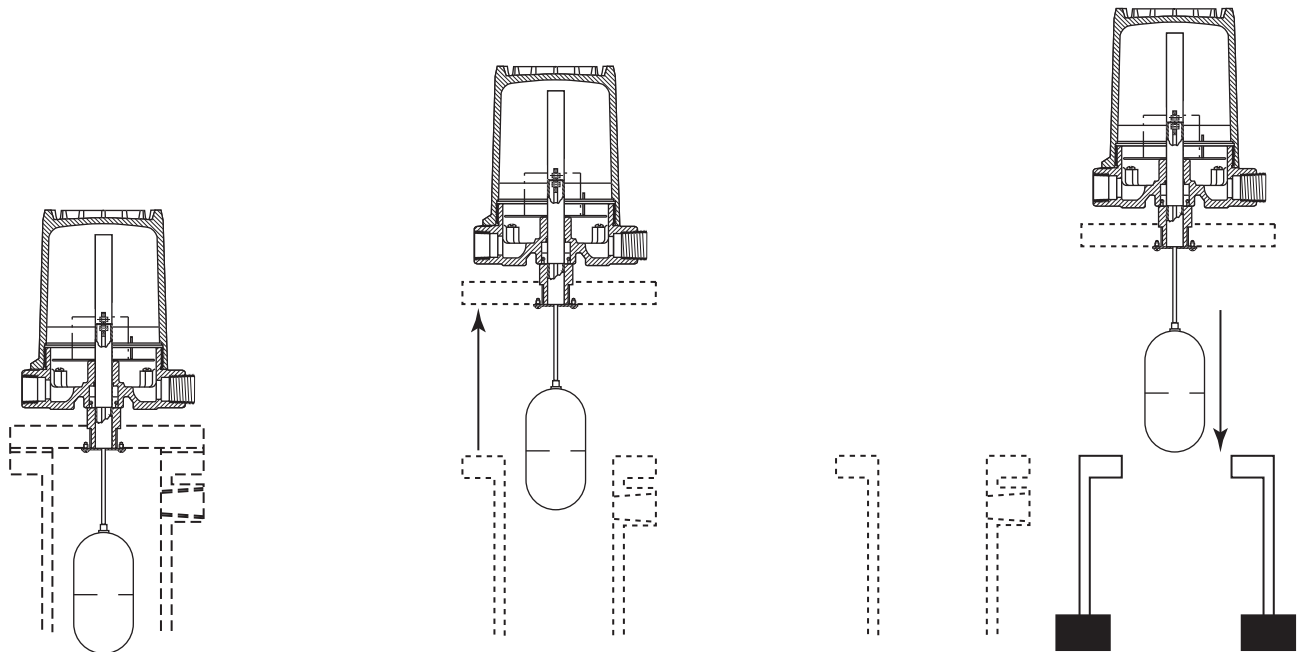

Figure 9
5. Prepare an area where the head assembly can be placed such that it rests on the flange in its normal orientation (two 2×4 boards placed across an open drum work well). Refer to **Figure 9** on page 11.
10. Replace the assembly onto the float cage keeping it as vertical as possible. Carefully lower the assembly into the chamber making sure that the stem does not become bent during installation. Refer to **Figure 9** on page 11.